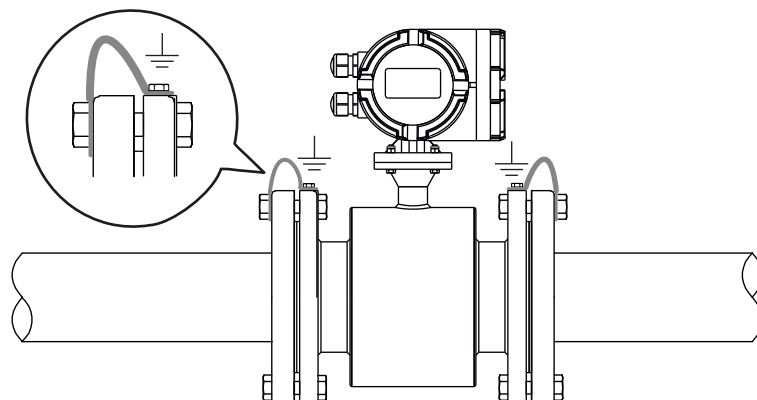

Fig.18A Sensor equipotentiality
- In metal piping, the device is made potential equalization via the connection between the sensor and the adjoining pipe. The bolt connection for flanges can not be used instead of the electric connection, it must have an additional electric connection as shown in **Fig.18A**.